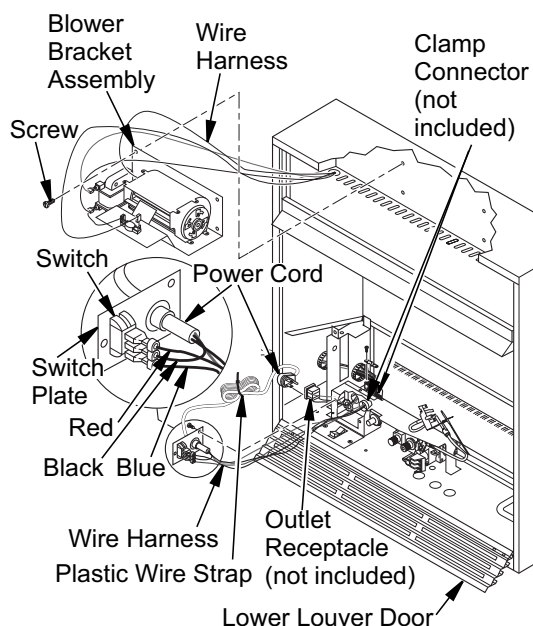

Figure 20 - Installing Blower Bracket Assembly
4. Plug power cord to the outlet receptacle (not provided) as shown in **Figure 20**. Wind the extra power cord and tie with plastic wire strap (see **Figure 20**). Set the power cord bundle between the burner bracket and outer casing, away from the burner.